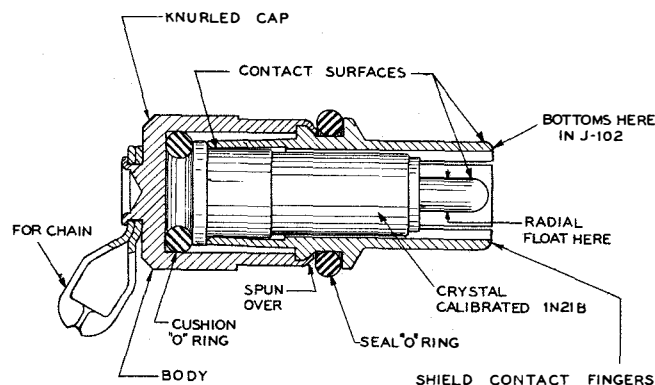

Fig. 5-1. Crystal Unit, Rectifying CAWY-40322
Fig. 5-1 shows the mounting of the crystal diode in its holder. Refer also to Section 2, Paragraph 6 and 8.
a. The SEAL "O" RING, Fig. 5-1, should be checked semi-annually and kept lubricated very lightly, with Dielectric Compound A-N Aeronautical Spec. AN-C-128, (Aviation Office Stock Catalog Number R52-C-3107-123 for an 8 lb. can; R52-C-3107-125 for a 10 lb. can.) Lubrication will prevent excessive friction when changing ranges.
c. In an EMERGENCY where the wattmeter must be used and both crystals supplied with instrument have been damaged or lost, any 1N21B crystal may be used in the wattmeter with a probable error ranging up to 20%. See Section 2, Paragraph 9. To remove crystal from the holder (See Fig. 5-1) remove the seal "O" ring and file off the lip marked "Spun Over". If a drill press or lathe is available chuck the knurled cap and file while the holder rotates. The new crystal may then be used in the body of the crystal holder without the knurled cap.